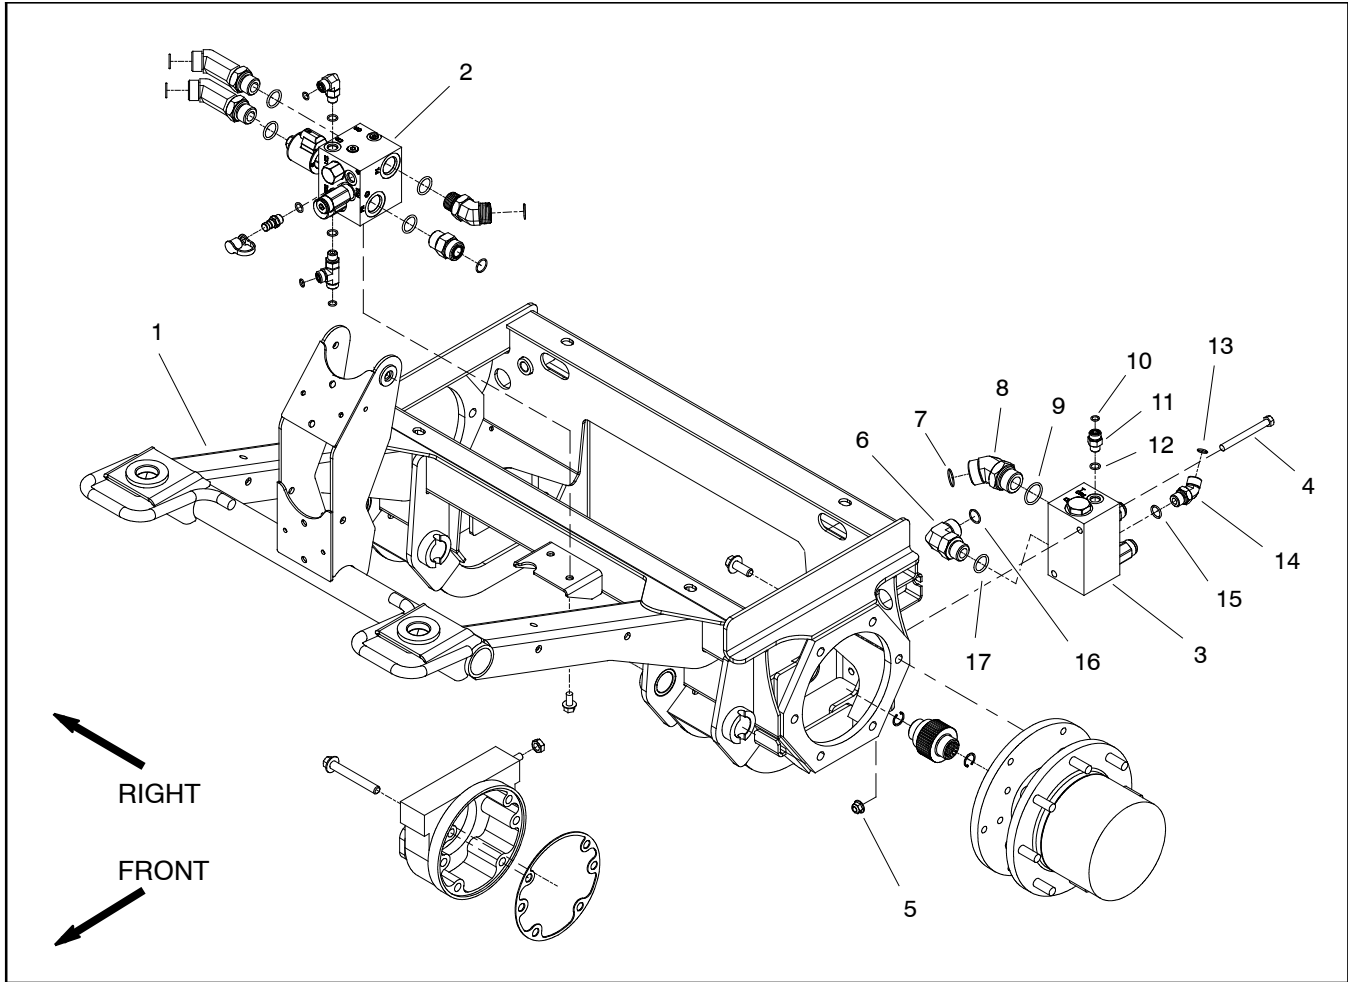

Figure 70
Removal (Fig. 70)
4. Remove hydraulic manifold from the frame using Figure 70 as a guide.
Installation (Fig. 70)
2. Install hydraulic manifold to the frame using Figure 70 as a guide.